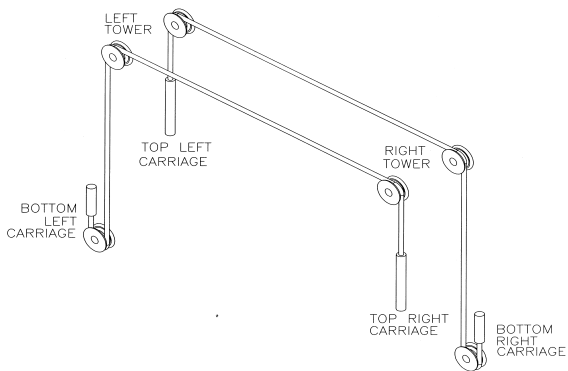

Figure 6a
2. Remove equalizing cables from the accessory kit box, and locate the (8) 1/2"-13UNC nuts in the hardware kit box.
3. Equalizing cables are to be routed as shown in **Fig. 6a**. Using the first cable, insert the short threaded stud through the 5/8" dia. hole at the bottom of the carriage (see Figure 11 Cable Mount "C"), and feed upwards until the stud comes through the top of the carriage. Place a 1/2"-13UNC nut at the center of the stud, and then **firmly tighten** a second nut up against it using two wrenches. Pull the cable back down through the bottom of the carriage.
6. Route the cable up through the tower, around the pulley at the top of the column, across the crossmember, around the pulley at the top of the other column and then down (**Fig 6a**). Insert the threaded stud into the 5/8" dia. mounting hole in the opposite carriage.